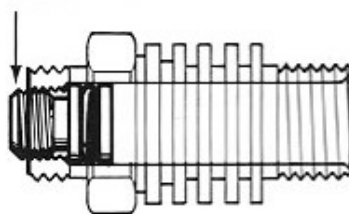

Figure 11
17. With a medium flat blade screwdriver or Arctic In-line Adjustment Tool, turn the crown (item 19) clockwise until the first two threads of the crown are visible at the end of the inlet fitting (item 20). See figure 11.
18. Lightly lubricate the O-ring (item 21) and install it on the crown side of the inlet fitting (item 20). Place a small amount of silicone grease on the first two threads of both ends of the inlet fitting.
19. While depressing the lever (item 7), thread the inlet fitting (item 20) clockwise into the box bottom (item 2), first by hand, then tighten the inlet fitting with a 19mm torque wrench to 55 inch-pounds.
20. Mount the spring (item 22) on the purge button (item 23). Place the purge button and spring assembly on the box top (item 24) and compress the spring until the four (4) arms of the purge button snap into place.
21. Place the diaphragm (item 25), with its metal plate facing the lever (item 7), into the box bottom (item 2), followed by the thrust washer (item 26). Next, thread the box top (item 24) clockwise onto the box bottom; first by hand, then snug it in place using the box top wrench.